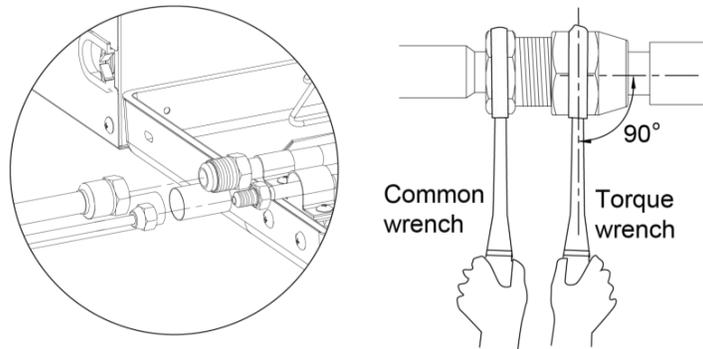

Fig. 4.3.1
- (2) Weld the connection pipes between indoor and outdoor unit. Please strictly conform to the requirements for welding process. Rosin joints and pin holes are not allowable.
- (3) When laying the pipes, be careful not to deform them. The radius of bending parts should be more than 200mm. The pipes can not be repeatedly bent or stretched, otherwise the material will get harden. Do not bend or stretch the pipe over three times at the same position.
- (4) Please use a torque wrench to connect union nut on the indoor unit. See Fig. 4.3.1.